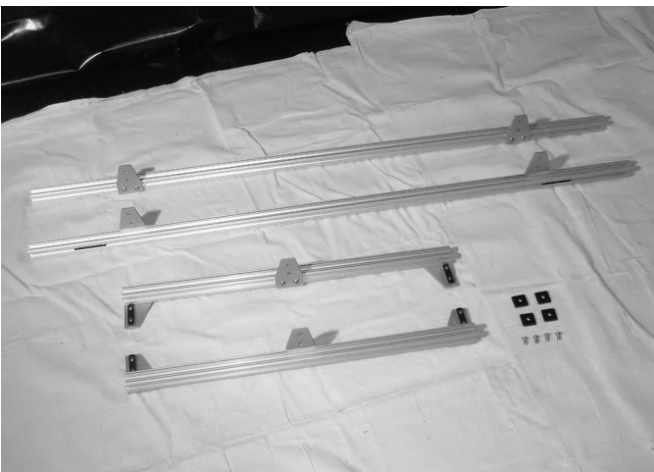

Figure 27
Mount (6) connector plates E as shown in Figure 27.
Mount (4) connector plates F as shown in Figure 27.